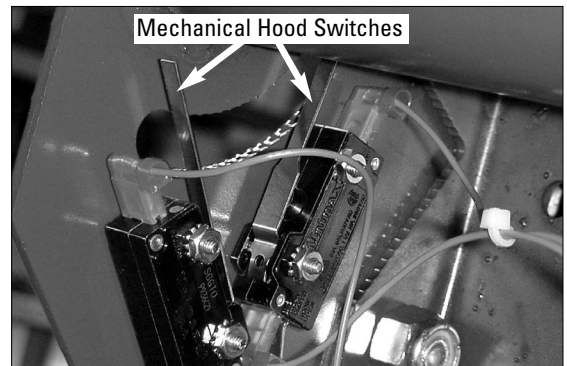
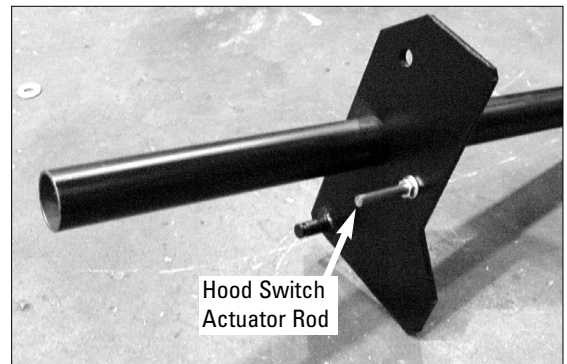

Figure 3 - Mechanical Hood Switches inside the Hood Bracket
Figure 4 - Actuator Rod on the Hood Bar Assembly
9. Locate the slot on the hood bracket labeled "Install Pin Here". The slot is covered by Styrofoam to separate and protect the mechanical switches, shown in figure 3, that are located inside the hood bracket. During installation the switch actuator rod (figure 4) located on the hood assembly can damage these switches if you are not careful.